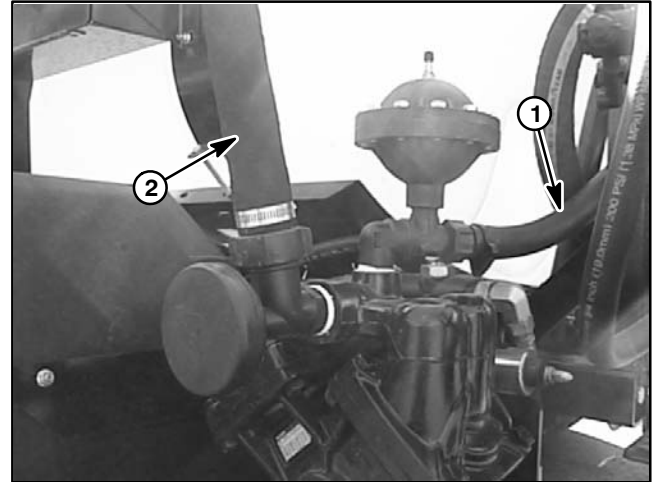
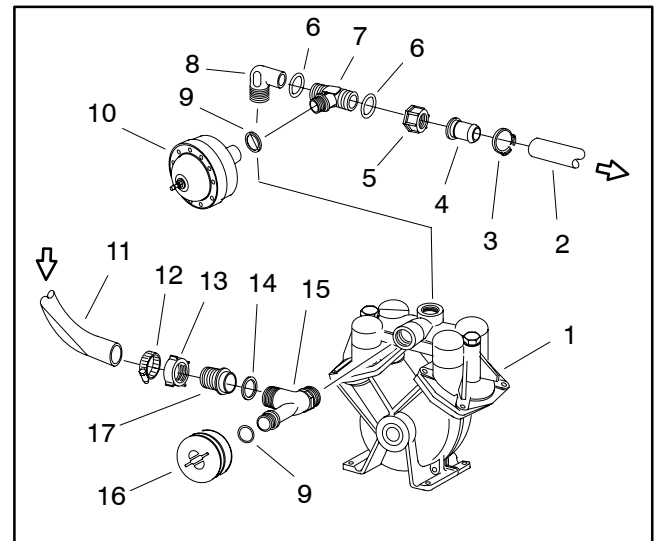

Figure 7
Figure 8
2. Loosen hose clamp that secures suction hose to hose barb (Fig. 7). Pull suction hose from hose barb.
3. Loosen hose clamp that secures pressure hose to hose barb (Fig. 7). Pull pressure hose from hose barb.
4. Remove flange head screw and flange nut that secure front and rear guard plate. Remove four (4) flange nuts that retain guard plates to pump mount bracket. Remove guard plates from machine.
6. Remove four (4) flange head screws and flange nuts that secure pump to pump mount bracket.
9. If needed, remove pressure dampener, tee fitting (pressure), and elbow fitting (pressure) from pump outlet (Fig. 8).
10. If needed, remove suction dampener and tee fitting (suction) from pump inlet (Fig. 8).
2. If removed, install tee fitting (suction) and suction dampener to pump inlet. Orientate tee toward rear of machine (Fig. 8).
3. If removed, install elbow fitting (pressure), tee fitting (pressure), and pressure dampener to pump outlet. Orientate elbow toward rear of machine (Fig. 8).
11. Install pressure and suction hoses to correct barb fittings (Fig. 7). Secure hoses with hose clamps.